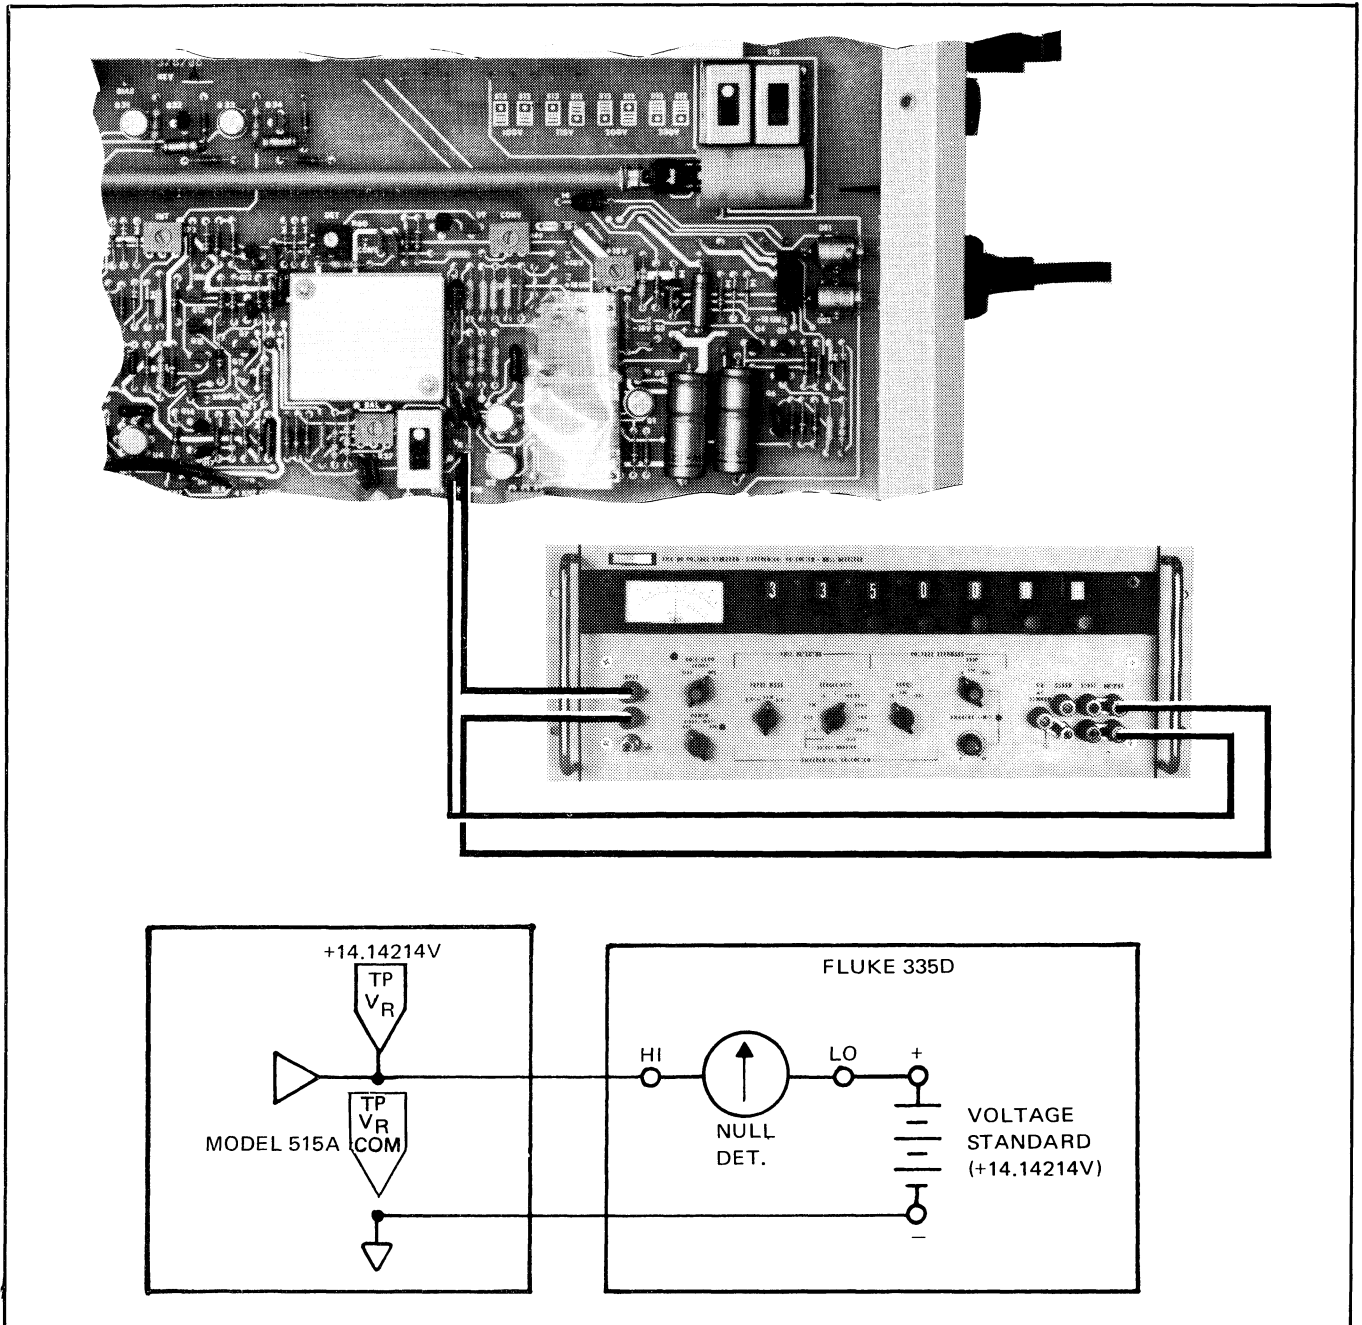

Figure 4-4. DC REFERENCE EQUIPMENT CONNECTIONS
- b. Make the equipment connections shown in Figure 4-4.
- a. Make the equipment connections shown in Figure 4-4.